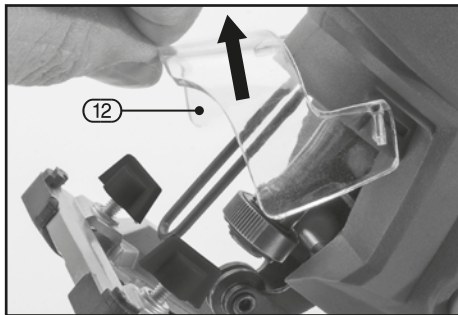

FIG.1
8.1 BLADE INSTALLATION AND REPLACEMENT – FIGS.1 – 3